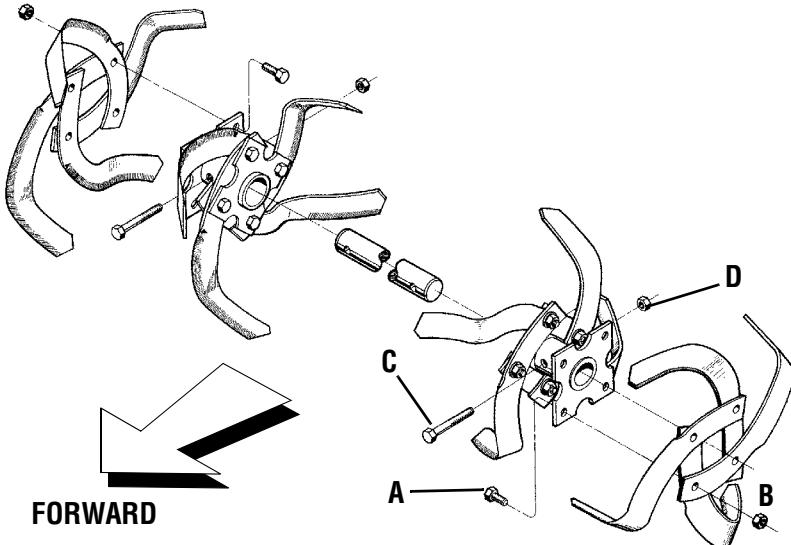

Figure 5-3: Install tines so that cutting edge of tines enter soil first when tiller moves forward.
1. With the engine shut off and the spark plug wire disconnected, remove the two screws (A, Figure 5-3) and nuts (B) that attach a single tine to a tine holder. If needed, use penetrating oil on the nuts.
2. If removing both tine assemblies, mark them "left" and "right" before removal. Remove the screw (C, Figure 5-3) and lock-nut (D) that secure the tine assembly to the tine shaft. If necessary, use a rubber mallet to tap the tine assembly outward off the shaft.